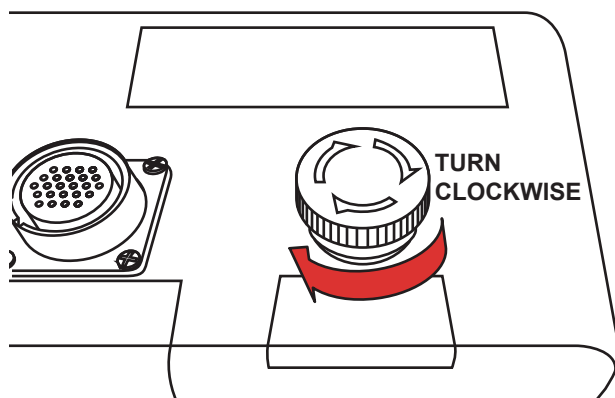

Figure 32. Turn Off Emergency Stop
1. Turn the emergency stop switch clockwise (Figure 32).